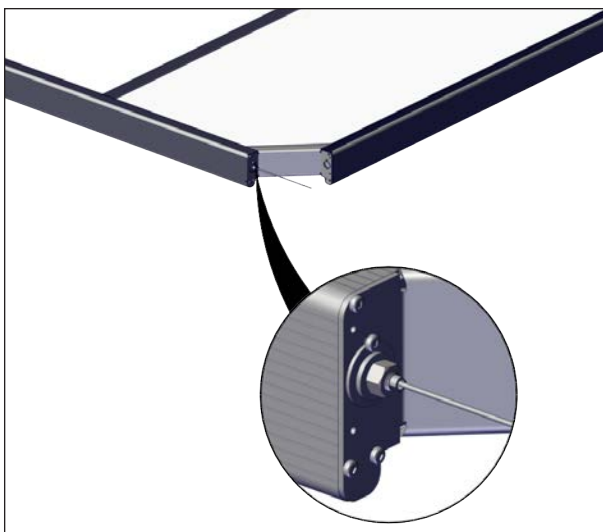

FIGURE 50: INSERT GRIPLOCK INTO THE HEXAGONAL GUIDE BUSHING
8. Insert the Griplock assembly into the hexagonal guide bushing (located in the outside corner bracket support), pull on the wire while pushing on the Griplock as much as possible, see Figure 50.